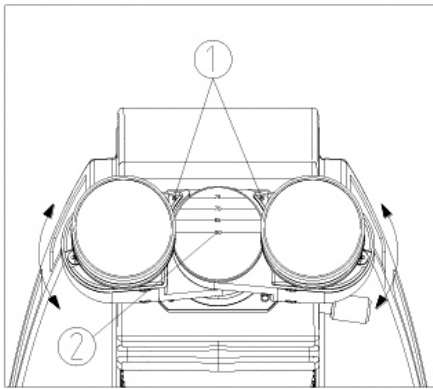

Figure 8
Where “.” ① on the eyepiece tube lines up, then that is the number for the interpupillary distance. Range: 55~75mm. (Fig. 8).